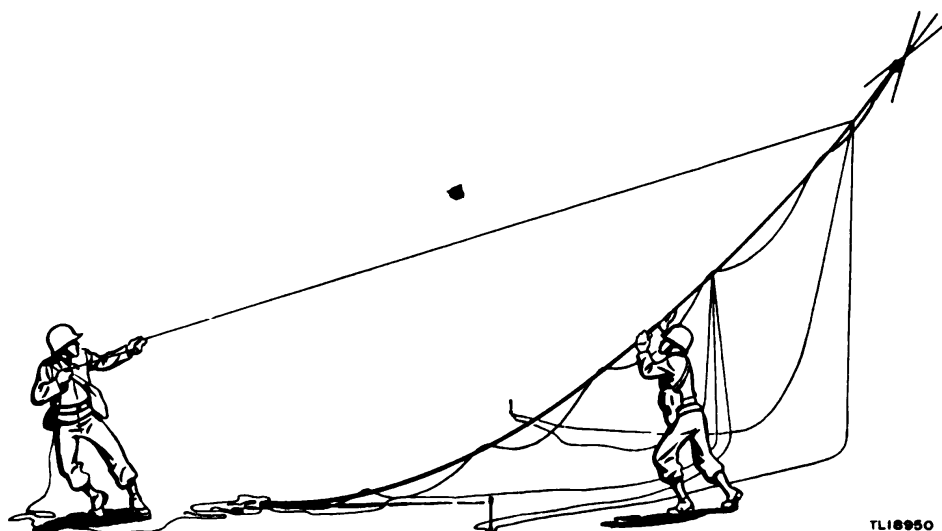

Figure 21. Antenna Assembly AS-110/TRC-7, erection by two men.
(1) One man should stand at the end of the antenna mast which inserts into the swivel ground stake. From this position he will be able to control antenna movement during erection by pulling the guy ropes as the other man walks the antenna up (figs. 21 and 22).
(2) The second man should stand near the lower guy plate and raise the antenna as high as possible.
(3) While the man at the guy ropes raises the top of the antenna mast, the second man walks toward the antenna base, raising the mast as he goes.
(4) When the antenna mast is vertical, tie the third set of guy ropes to the base plate and readjust the other two sets.